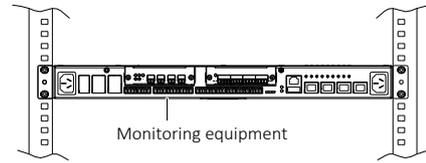

Figure 2-2 Fixing monitoring equipment
3. Put the monitoring equipment onto the guide rails in the cabinet and push it into the cabinet completely, as shown in Figure 2-2.